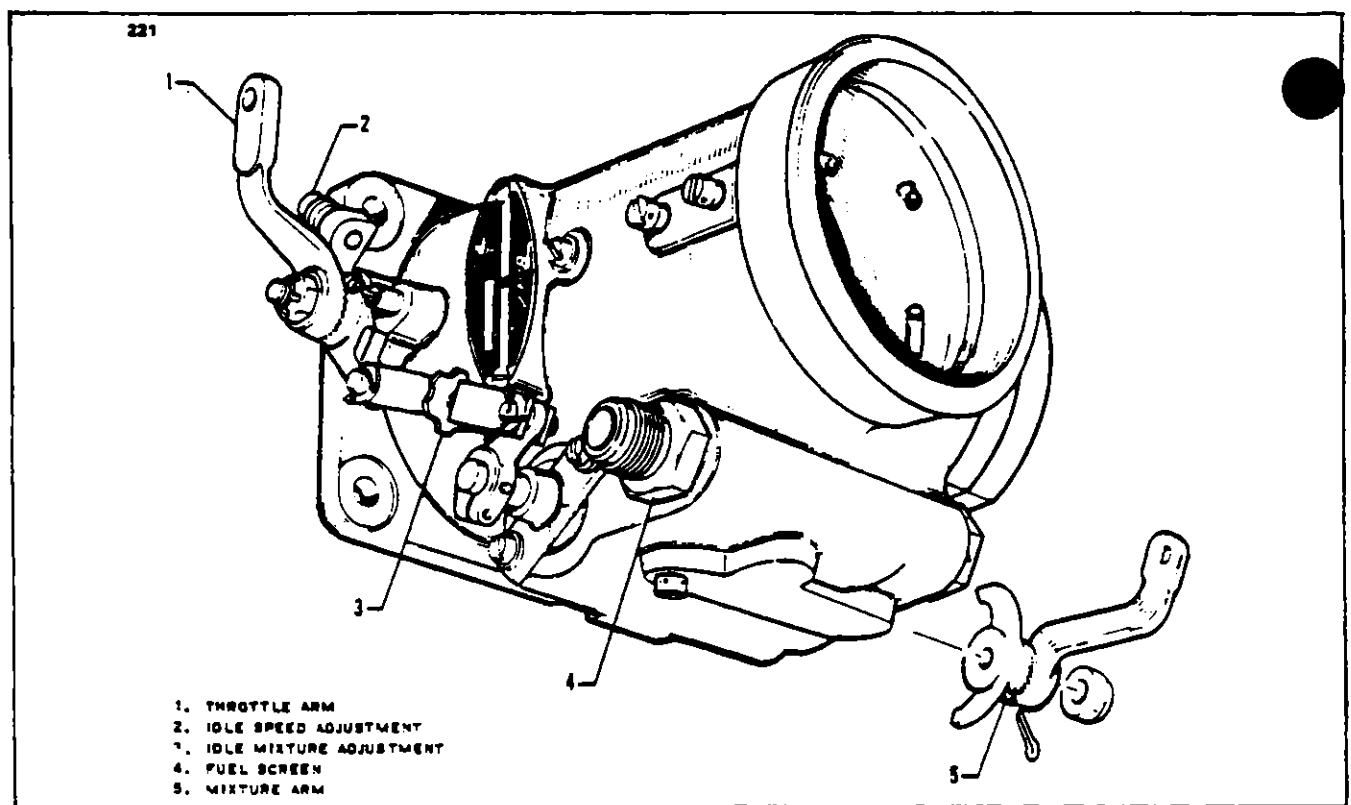

FIGURE 7B-6. IDLE SPEED AND MIXTURE ADJUSTMENT (FUEL INJECTOR)
**7B-32 Adjustment Of Idle Speed And Mixture.** (Refer to Figure 7B-6.)